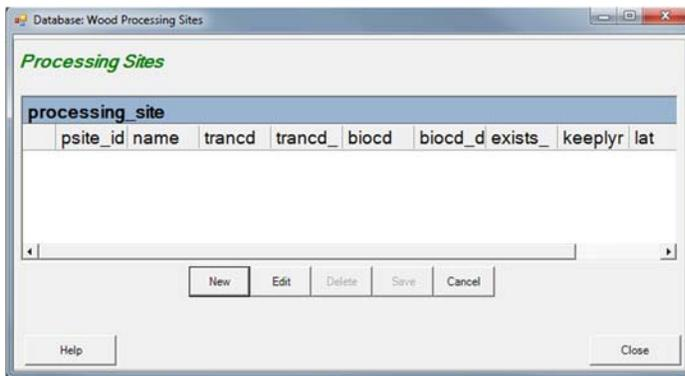
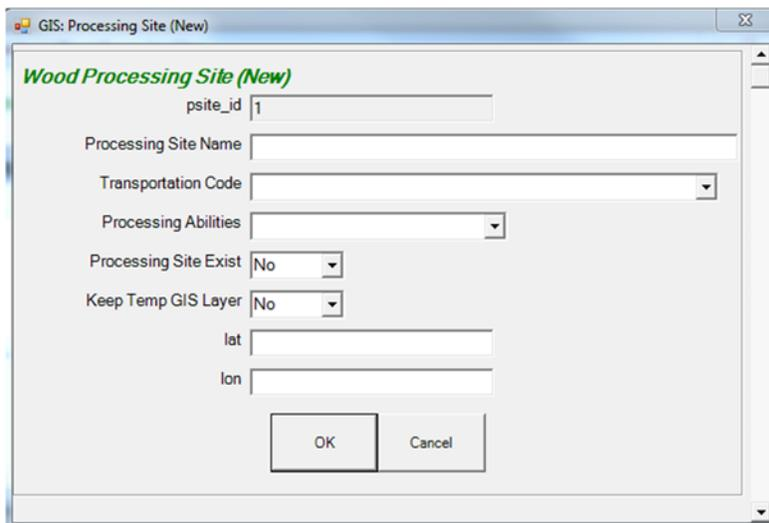
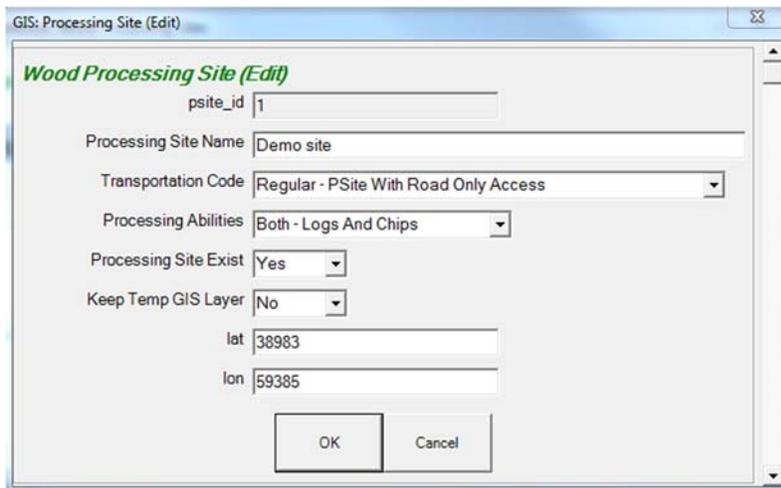

Figure 2.17- Wood Processing Sites dialog
Figure 2.18- Creating a new wood processing site
Figure 2.19- Editing a wood processing site
2. To create a new wood processing site, click on **<New>** (see Figure 2.17). Enter the information on the new wood processing site, including the processing site name, the transportation code (road access, railroad access, or both), the material processed by the site (logs, chips, or both), whether the site currently exists, and facility location (latitude and longitude) (see Figure 2.18). Once a new site has been created, be sure to click **<Save>** before exiting the Processing Sites window shown in Figure 2.17.
3. To edit a site, select the **<Edit>** button shown in Figure 2.17 and make changes to each field as needed (see Figure 2.19). Be sure to click **<Save>** before exiting the Processing Sites window to save any edits made.
4. Wood processing sites can also be deleted with this tool by selecting a site then clicking **<Delete>** (also in Figure 2.17), selecting **<Yes>** when the Delete Selected Processing Sites window pops up, then click **<Save>** to save the change.